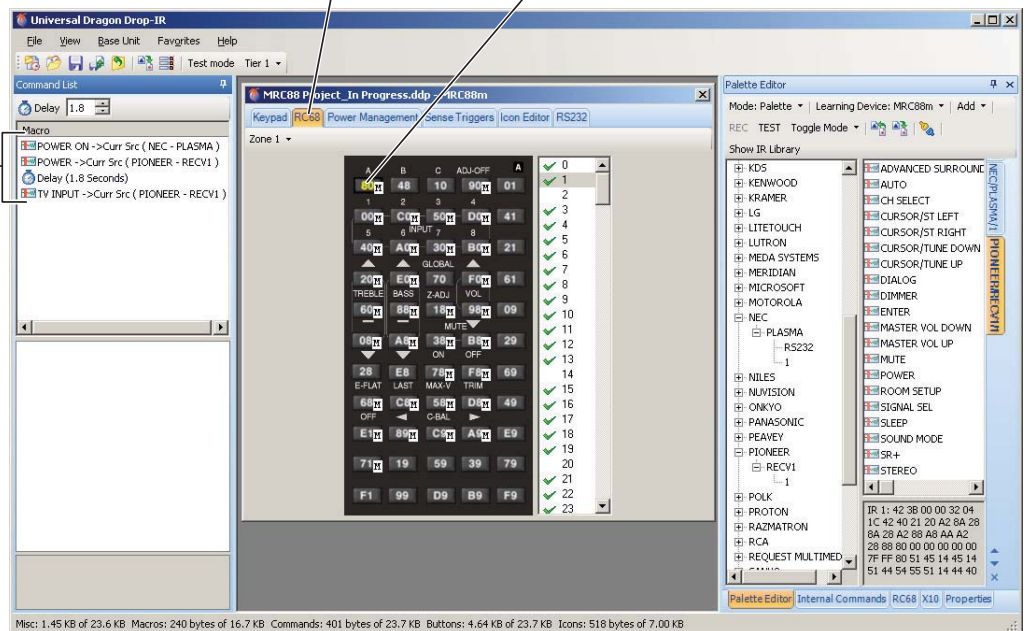

Figure 54: Building a macro that responds to an RC68 command (MRC88 shown)
1. Select the RC68 tab in the SPLCD or MRC88/44 device window. The RC68 button layout will be displayed (see *Figure 54*).